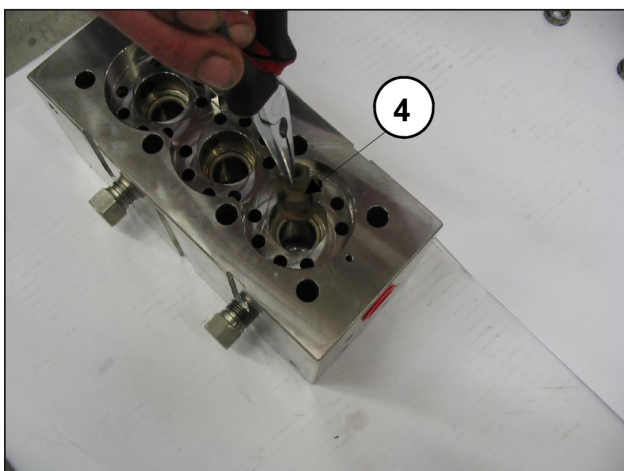
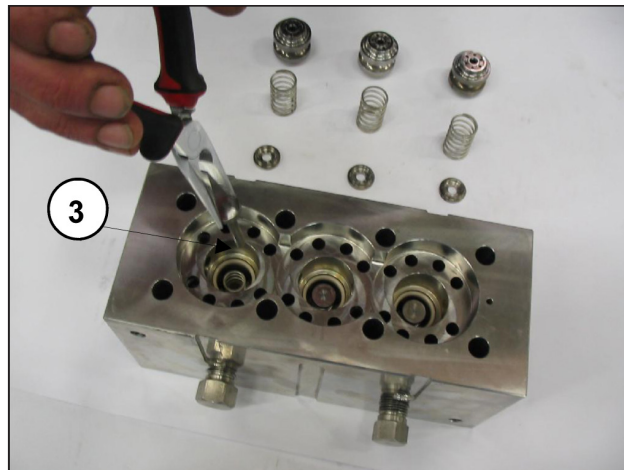

Fig. 26
Fig. 27
- Extract the outlet plates ③ and their guides ④ with the springs, as shown in Fig. 26 and Fig. 27, check for wear and replace if necessary, and in any case within the times indicated in the "PREVENTIVE MAINTENANCE" table of chapter 11 in the *use and maintenance manual*.